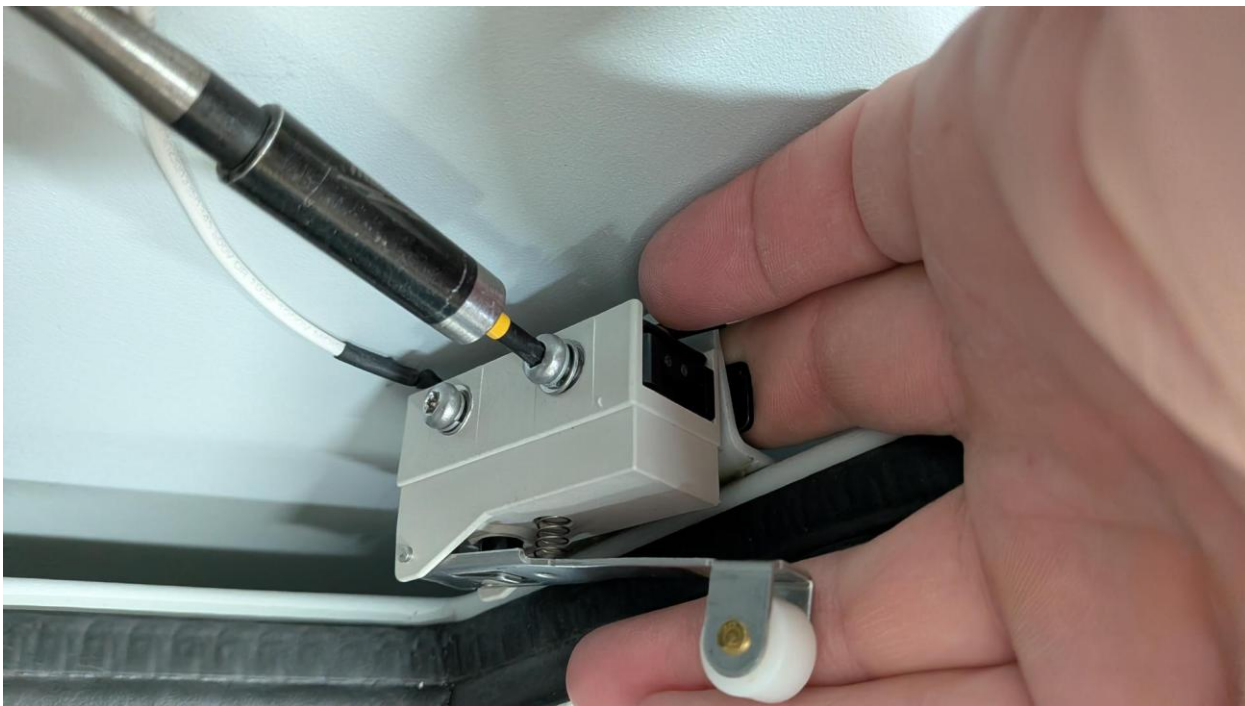
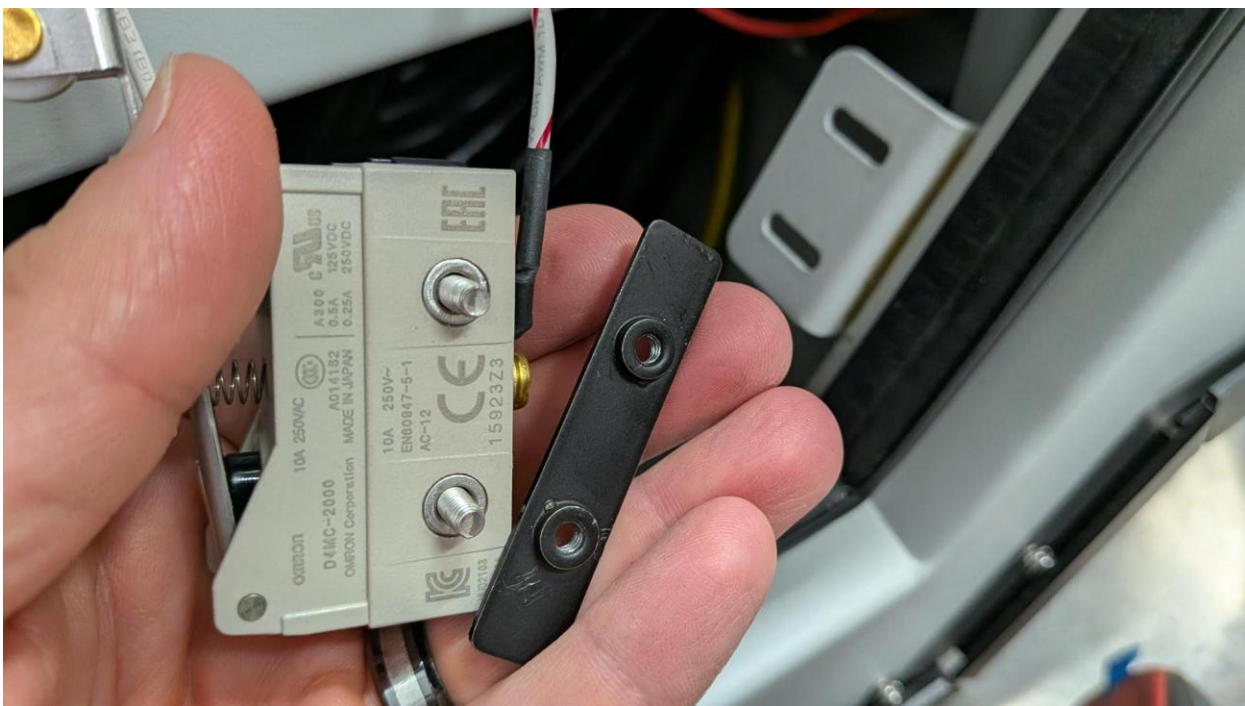

Figure 12
Figure 13
12. Open the left door and remove the roller/lever mechanism (Figure 12) and take care to retain its back plate when loosened (Figure 13).